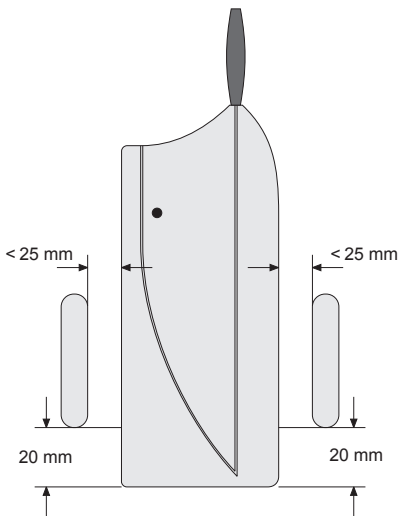

Figure 13
- As a rule, the magnet is mounted on the moving part (window or door, for example) and the 'FHT80TF' door/window contact sensor is attached to the static part (window or door frame). Please observe the recommended distances between the magnet and the door/window contact that are illustrated in figure 13 on the previous page.
- If you use the supplied magnet (for the internal magnet contact), attach it using the enclosed double-sided tape (please note the recommended distances that are illustrated in figure 13 on page 22). Alternatively, you can use 2 screws to attach the magnet (remove the magnet's casing with a flat screwdriver).